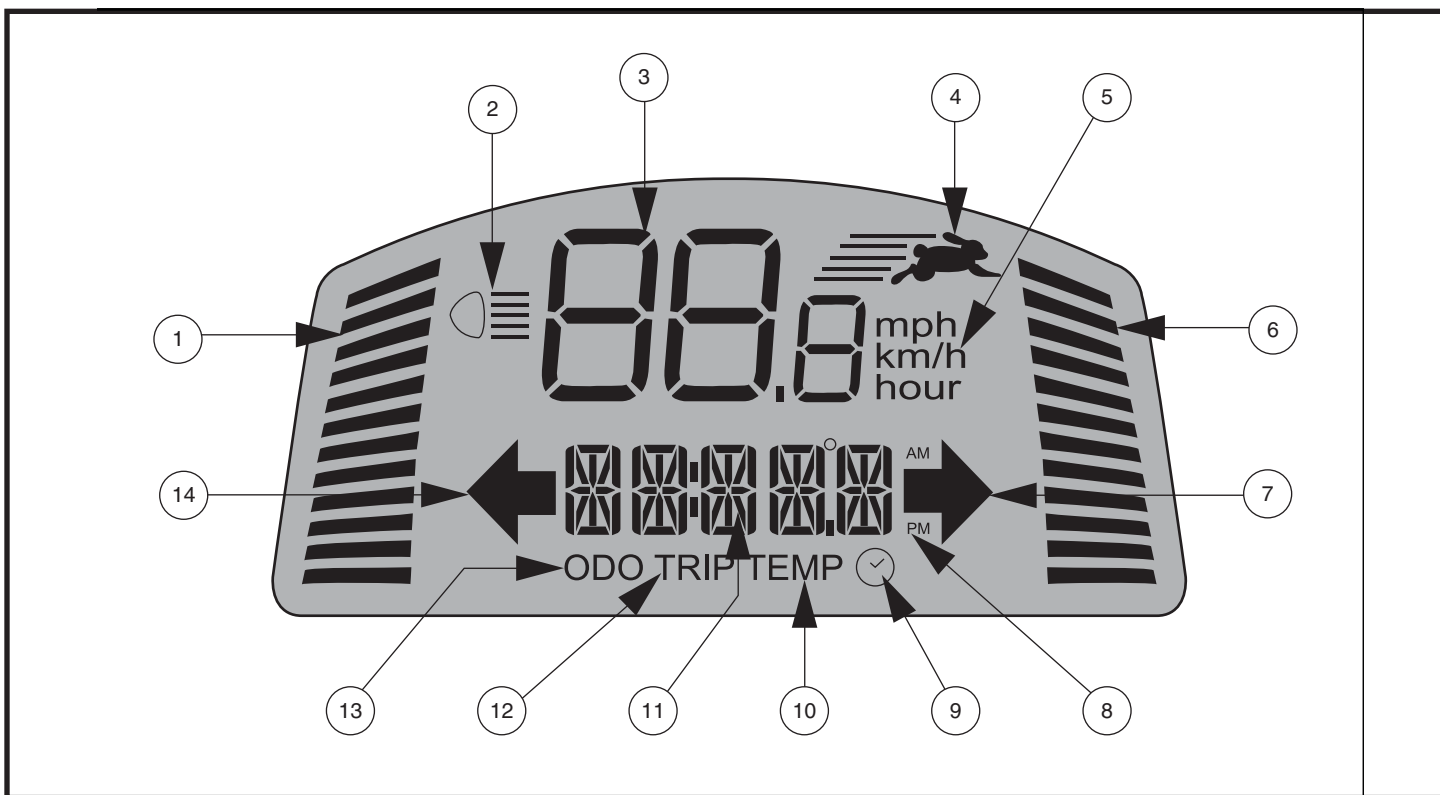

Figure 4. LCD Screen
- Press the High-Low button once to set the speed adjustment to High. The High-Low indicator will display on the LCD screen. **See figure 4.** Using this setting in conjunction with the speed adjustment buttons will allow the scooter to achieve speeds up to the maximum preprogrammed speed for the scooter.
These adjustment buttons enable you to pre-select and limit your scooter's speed. This is indicated by the maximum speed indicator on the LCD screen. **See figure 4.**
NOTE: The more bars shown on the maximum speed indicator, the faster your pre-selected maximum speed will be. See figure 4.
The LCD control panel offers easily intuited feedback information via the LCD screen. See **figure 4**. The LCD screen is also used during the set-up (activation) of the various control panel settings. See **chart 1**.